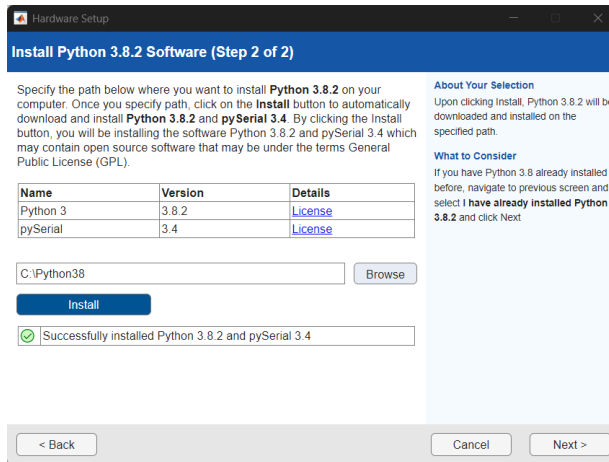

Figure B.3: Screenshot of step two of the python installation window.
4. **[Initial Only]** As shown in Figure B.3, click “Install” to download the proper Python and pySerial packages. Proceed to the next screen.
Note: It is possible for the firmware build to fail if the automatic python installation shown in Figure B.3 did not properly install the `empy` python package. To see if this error caused the firmware build to fail, look for a message such as